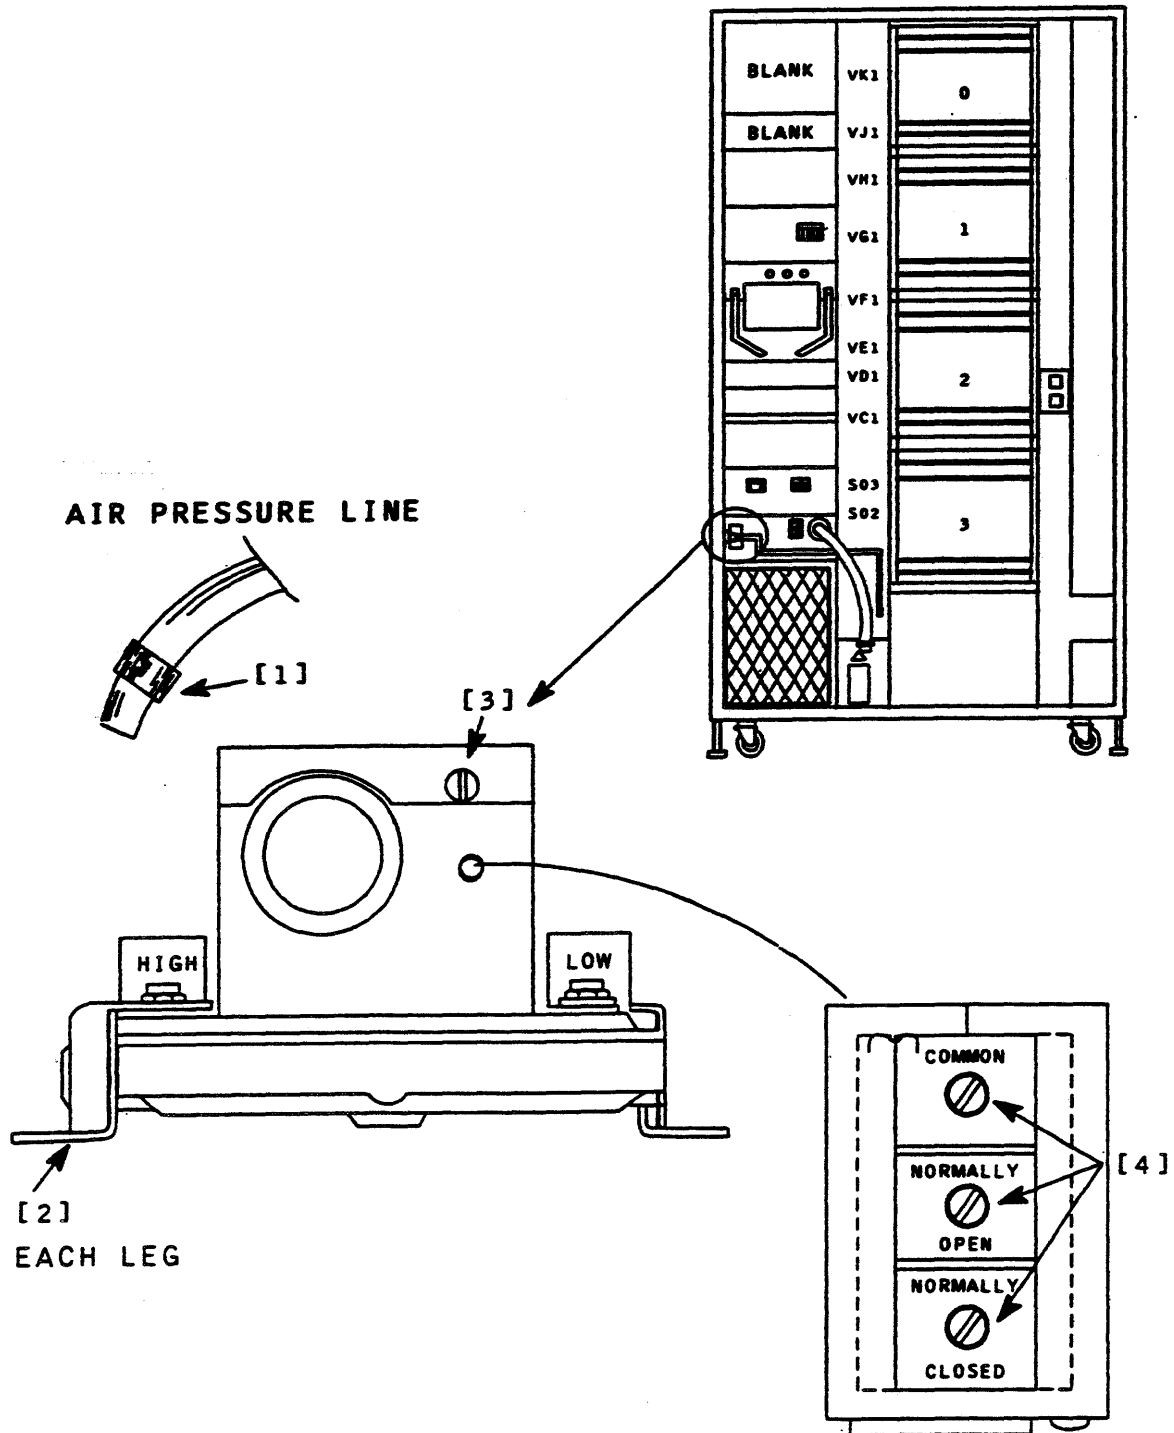

FIGURE 2.27-1. AIR PRESSURE SWITCH REMOVAL/INSTALLATION
6. Using broad-nosed pliers, compress air tube securing band and using twisting motion pull air tube from fitting (Figure 2.27-1, [1]).
7. Using cross-tip screwdriver, remove pressure switch retaining hardware (Figure 2.27-1, [2]).
8. Using flat-tip screwdriver, remove pressure switch cover and note position of snap-action switches (Figure 2.27-1, [3]).
9. Using flat-tip screwdriver, disconnect pressure switch electrical leads - remove faulty pressure switch from cabinet (Figure 2.27-1, [4]).